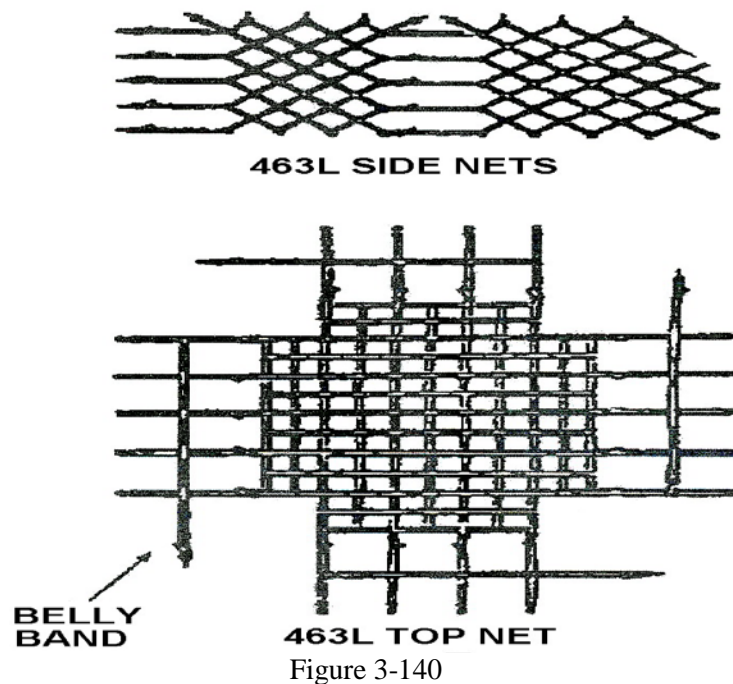

Figure 3-140
6. Direct personnel to lay out each complete set of nets (one top and two side nets) (see Figure 3-140).